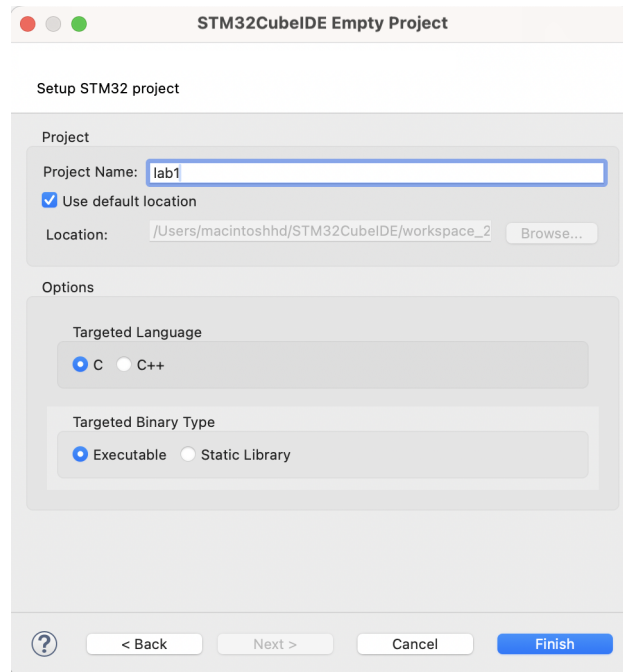

Figure 1: Initialize project as empty.
- Name your project (e.g., **lab1**), select **C** as the targeted language and **Executable** as the targeted binary type, and click **Finish** (see Figure 1).